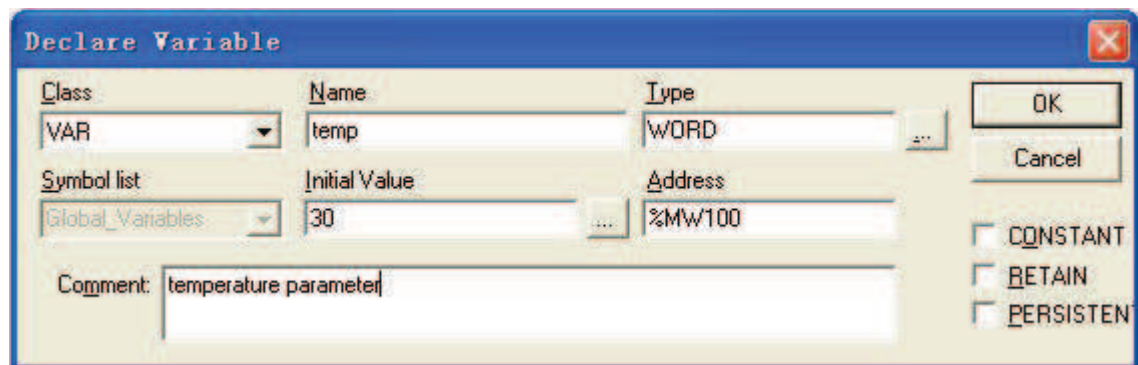

Figure 4-4-1 Autodeclaration
If the **Autodeclaration** option has been chosen in the Editor category of the Options dialog box, then a dialog box will appear in all editors after the input of a variable that has not yet been declared, shown in figure 4-4-1. The **Class**, **Name** and **Type** are necessary.
- A variable can be specified a address and the address format must be consistent with that described in 4.2. When a variable is specified an address then the variable will be stored in the data area appointed by the address. For example the variable temp declared in figure 4-4-1 will be stored in %MW100. In a program change the value of %MW100 through direct addressing then the value of variable temp will be changed. The variable which is not specified an address will be stored in N location.
- After autodeclaration the variable declaration will be displayed in declaration part automatically. If the variable temp in figure 4-4-1 has been declared then the following will display in declaration part: